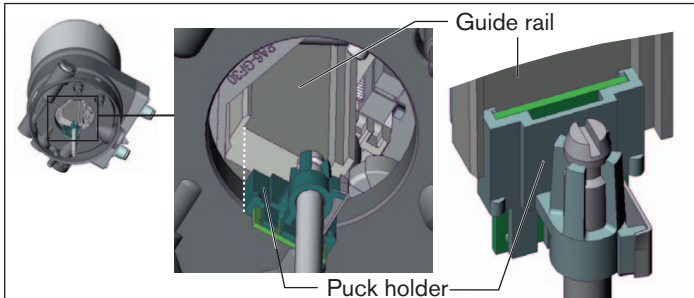

Fig. 7: Aligning the puck holder
1. the puck holder can be inserted into the guide rail of the positioner / process controller (see "Fig. 7") and